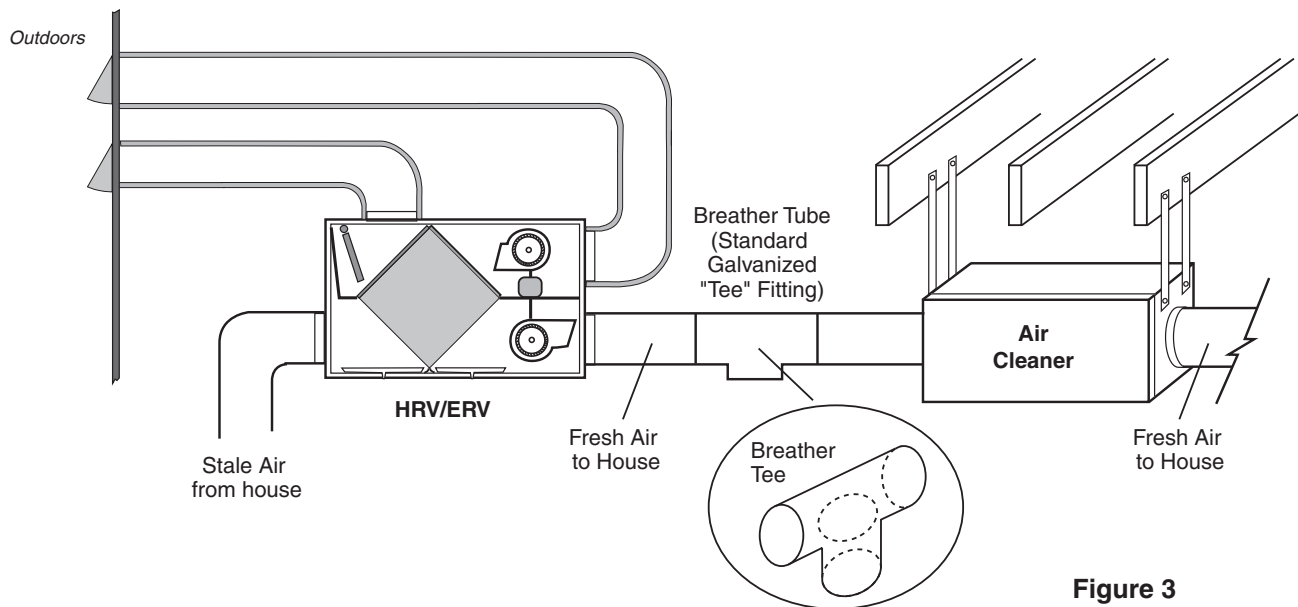

Figure 3
Locate the TFP in the main trunk of the fresh air to house line, after the Heat Recovery Ventilator (HRV) and before any branch lines. (Fig. 3)
1. Locate and remove the mounting bolts (4) (used for vertical mounting) from the sides of the TFP cabinet (Fig. 3).
1. Install (2) 7" collars (provided) on TFP cabinet with the (8) 8/32" X 3/8" sheet metal screws provided.
4. A short piece (1-2 foot) of flexible ducting should be used on both sides of the TFP (Fig. 3) to reduce vibration and noise transfer.